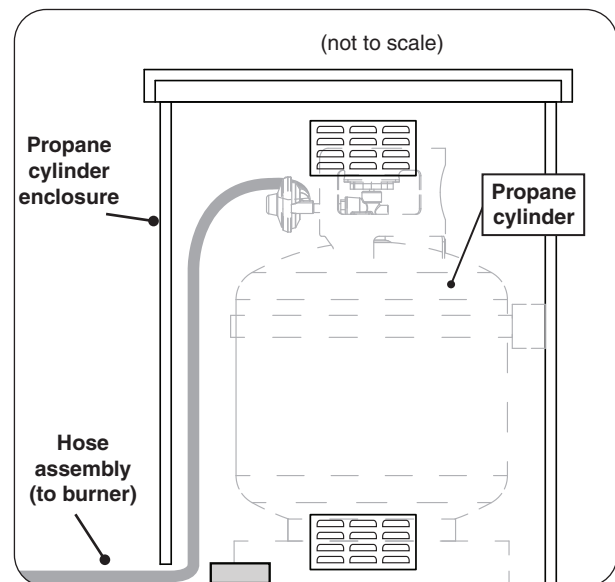

Fig. 28-3 L.P. Cylinder placement
3. The propane cylinder (not included) is to be located inside the separate propane cylinder enclosure (see Fig. 28-3).